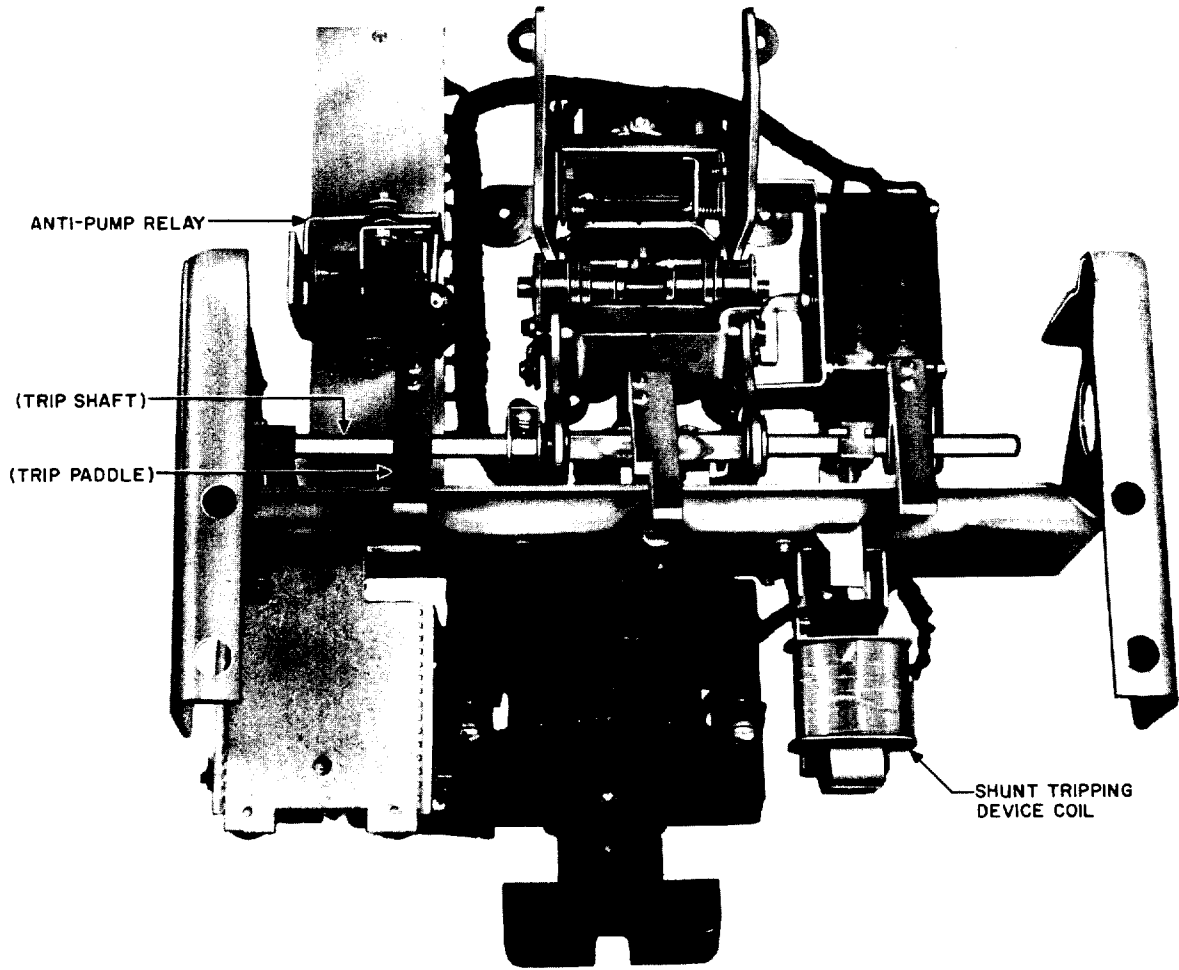

Fig. 6 - Rear of Front Frame
(d) Care should be exercised in separating the two frames to avoid damage to the trip shaft arms and paddles (see Fig. 6). While the back frame is held steady, lift the front frame and mechanism up and out so that the trip paddles on the trip shaft clear the trip arms of the overcurrent trip devices. After making the necessary replacements and adjustments, reassemble the breaker in the reverse order.
(1) With the 3-inch C screwdriver, remove the auxiliary switch cover. Disconnect leads to the switch terminals using the 4-inch E screwdriver. Remove the front escutcheon by removing the four Phillips head screws from the flange of the escutcheon using the B screwdriver, No. 3. Remove two screws which fasten the switch to the side of the mechanism frame and remove the switch by moving it towards the left.
(2) Before mounting the replacement switch, turn the crank end of the switch operating shaft in position to engage the hole in the link connected to the breaker mechanism. Be sure the bearing washer is in place between the mechanism link and the switch operating shaft.
3.11 Shunt Tripping Device — See Fig. 6
(1) To replace the contactor, pull off the contactor cover and mark and disconnect the leads from the terminals. Use the 4-inch E screwdriver to disconnect the leads. With a suitable wrench, remove the nuts from the three mounting studs. If the contactor unit includes the mounting bracket, remove the unit by removing the two screws which fasten the contactor bracket to the breaker frame.
3.16 *Anti-Pump Relay — See Fig. 6*